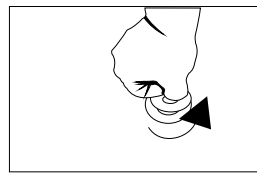

Figure 3
- 6.**Place the container exactly under the drain plug as long as you empty after it is full each time. (Figure 3)
- 9.**Plug your product into the wall-socket and ensure to operate it unloaded for at least three (3) hours on super cooling position.